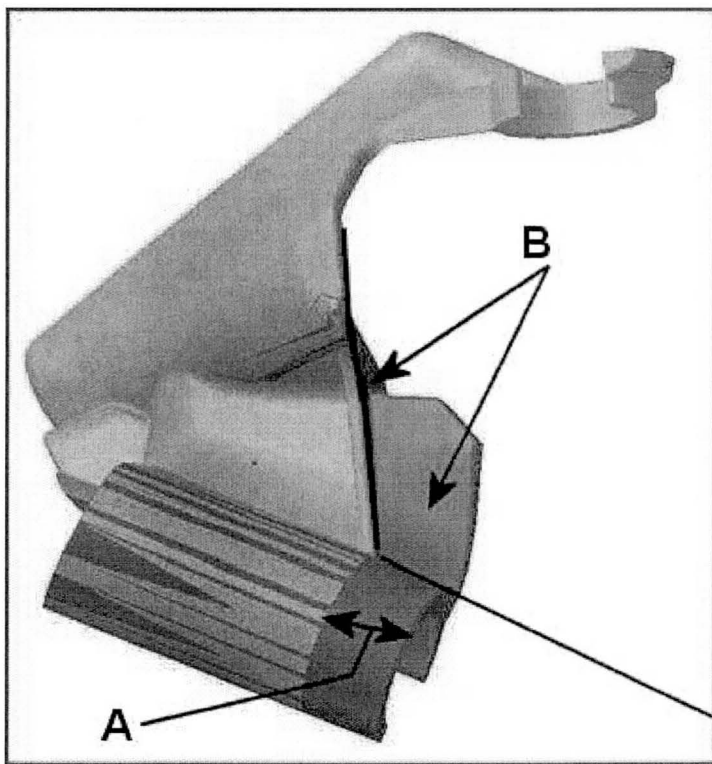

Figure 4
- Referring to Figure 4 point A, carefully remove 8 mm from the guide as shown